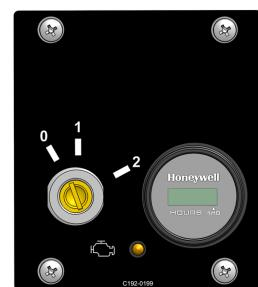

Figure 11 - Control Panel
2. Insert the ignition key in the control panel and turn to position 1 for 5 seconds (Figure 11).
3. Confirm that the MIL illuminates continuously (Figure 11).
4. Turn the ignition key to the start position (2) (Figure 11).